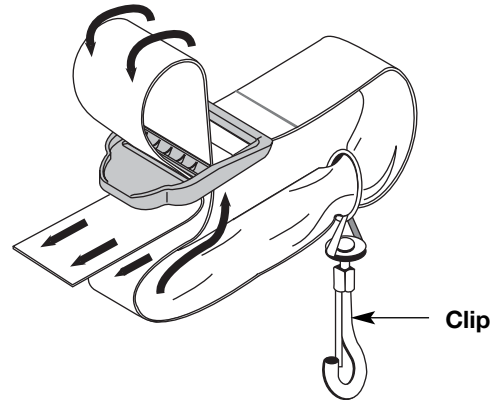

Fig. 6
- Pull the strap over the cross bar and down through the slot in the buckle (Fig. 6).